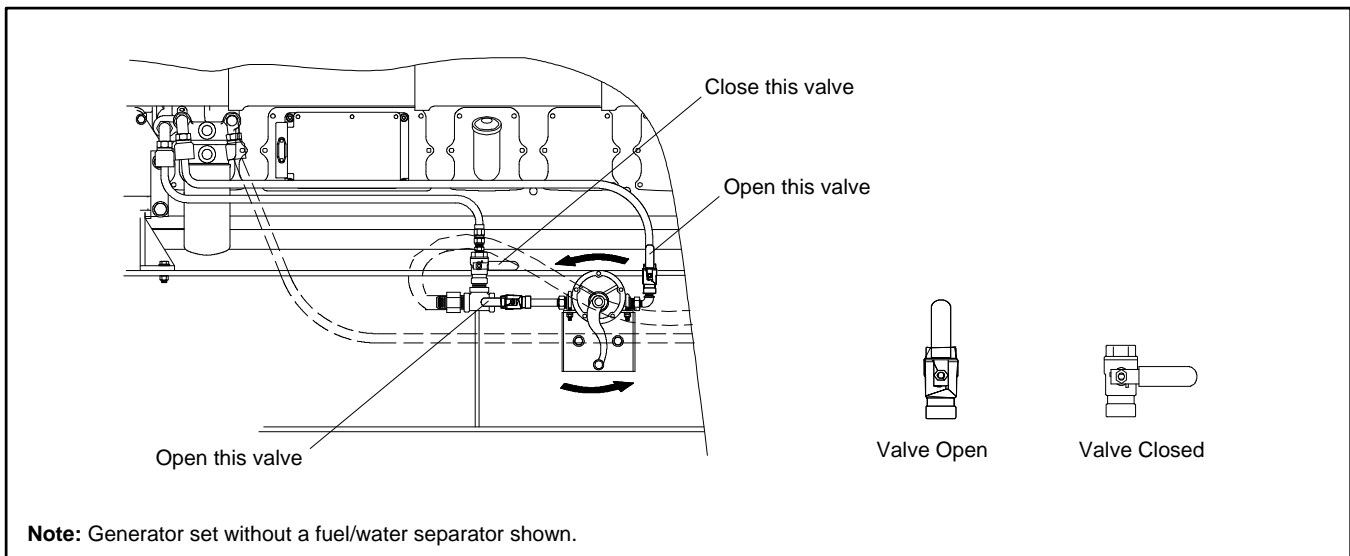

Figure 31 Hand Prime Pump with Valve Positions for Fuel Priming, Typical
1. Place the fuel valves in the fuel system prime position. Close the fuel valve located between the pipe tee and the engine. Open the fuel valves on each side of the fuel prime pump. See Figure 31.